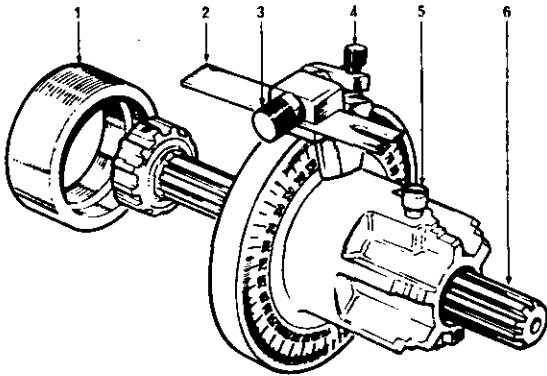
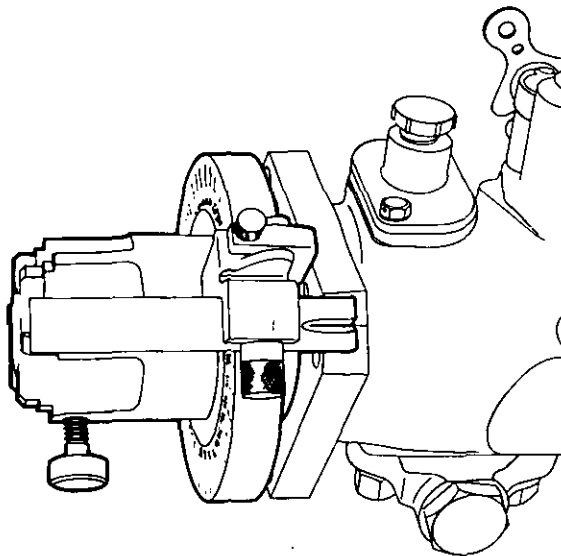
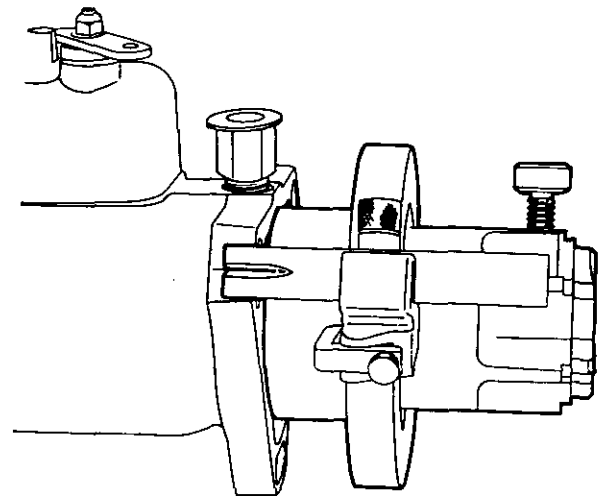

Fig. M.16.
Fig. M.18.
Fig. M.19.
3. Release screw (5) of timing tool (MS67B — Fig. M.16) and position splined shaft (6) in tool so that the relevant spline is to the front of the tool. In the case of some engines using the large heavy duty fuel pump drive, the larger splined adaptor must be used, even though the smaller splined shaft will fit.
4. Ensure that the slotted pointer (2) is positioned with slot to front of tool and chamfered sides of slot outwards. At this stage, slotted end of pointer should be kept well back from front of body. Ensure that flat in washer fitted behind pointer securing screw (3) is located over pointer.
5. Release bracket screw (4) and set bracket so that the chamfered edge is in line with the relevant engine checking angle. This angle can be obtained by reference to the fuel pump setting code as given on Pages B.15 or B.16.
1. Release screw (5) of timing tool MS67B (see Fig. M.16) and remove splined shaft (6).
2. Ensure that slotted pointer (2) is positioned with slot to rear of tool and chamfered sides of slot outwards. At this stage, slotted end of pointer should be kept well back towards body of tool. Ensure that flat in washer fitted behind pointer securing screw (3) is located over side of pointer.
4. Release bracket screw (4) and set bracket so that the chamfered edge is in line with relevant marking angle detailed on Pages B.15 or B.16.
5. Position timing tool on pump drive shaft with master splines engaged and tool located on spigot (see Fig. M.18). Adaptor MS67B/8 (1—Fig. M.16) will be needed on some pumps using the large splined drive (see Fig. M.19).